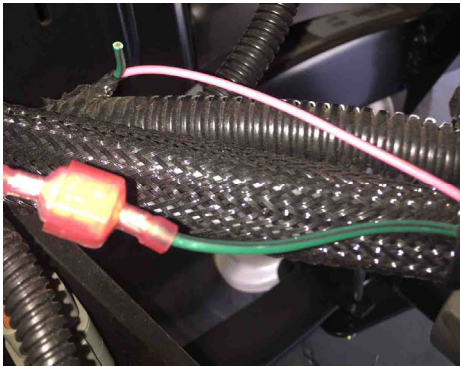

Fig. 16
3. Strip the end of the green/black wire that is leading to the **MOTOR TEMPERATURE SENSOR**. Crimp on the included connector to this stripped wire. (Fig. 16)